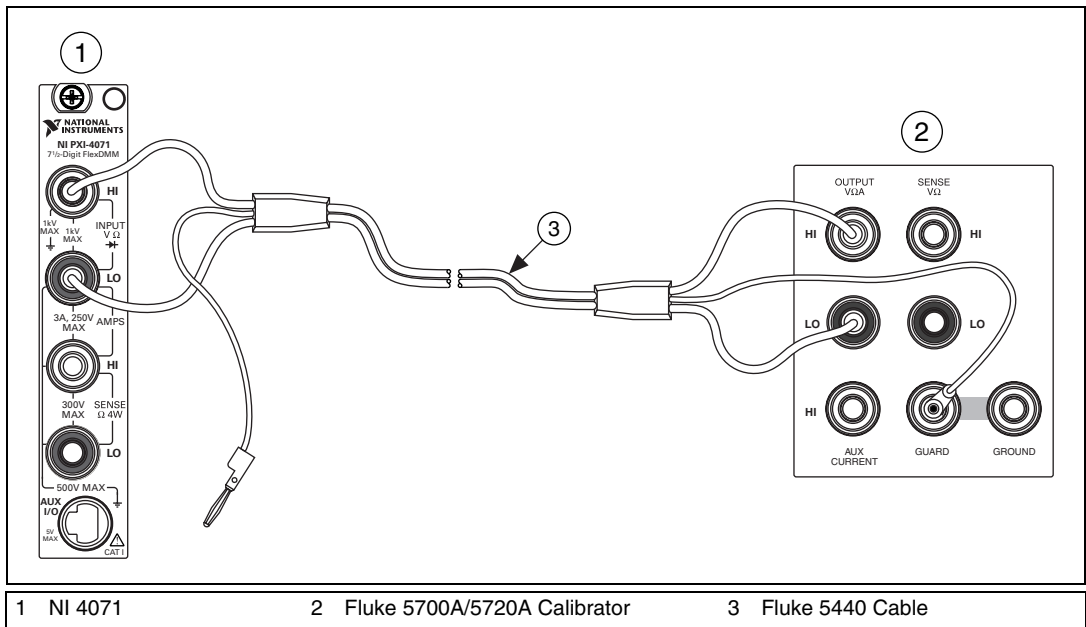

Figure 3. Cable Connections for Voltage and 2-Wire Resistance
20. Connect the NI 4071 and the Fluke 5700A/5720A calibrator using the Fluke 5440 cable, as shown in Figure 3. Table 1 lists the cable connections.